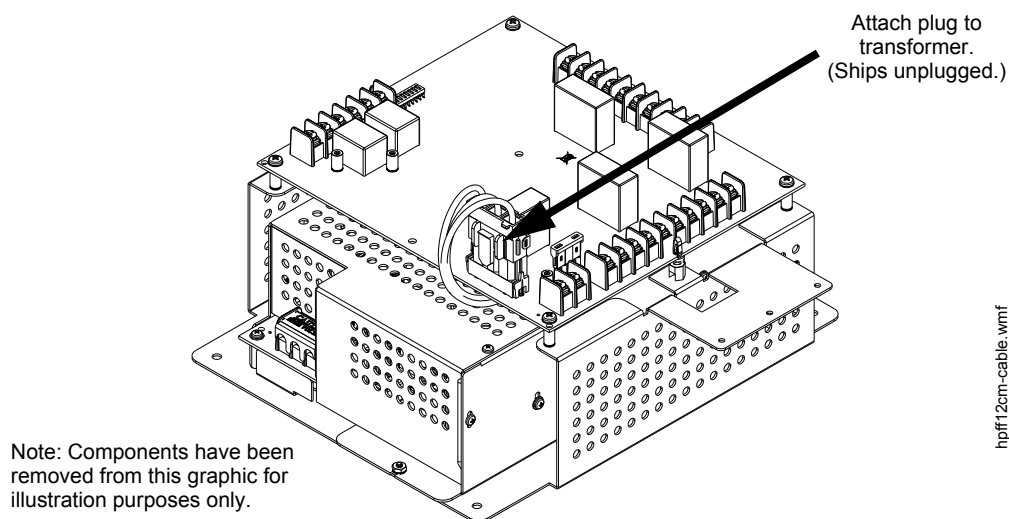

Figure 2.5 Attaching Transformer Plug
1. Attach power cable to the FFSMTR9-PCA (ships unplugged) as shown in Figure 2.5.